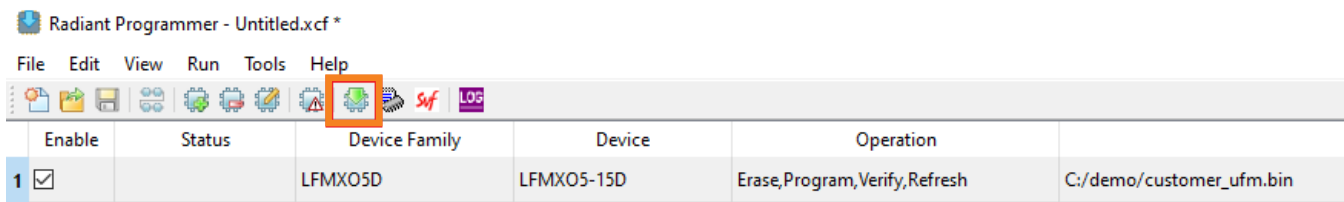

Figure 3.7. Program Device Button
- Click the **Run** menu and click **Program Device** to start the provisioning process. Alternatively, the user can click the **Program Device** button from the menu bar shown in Figure 3.7. The provisioning will proceed. Check the output window of the Programmer to see the provisioning status.